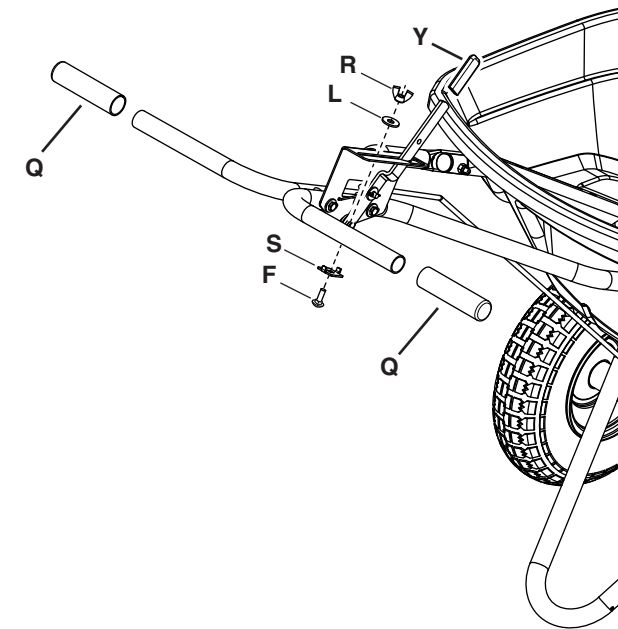

Figure 15
STEP 15: (SEE FIGURE 15)
- Install the grip (Y) onto the flow control arm.
- Install the handle grips (Q) onto the handles.
- Assemble the adjustable stop (S) to the flow control bracket using the 1/4" x 3/4" carriage bolt (F), nylon washer (L) and wing nut (R).